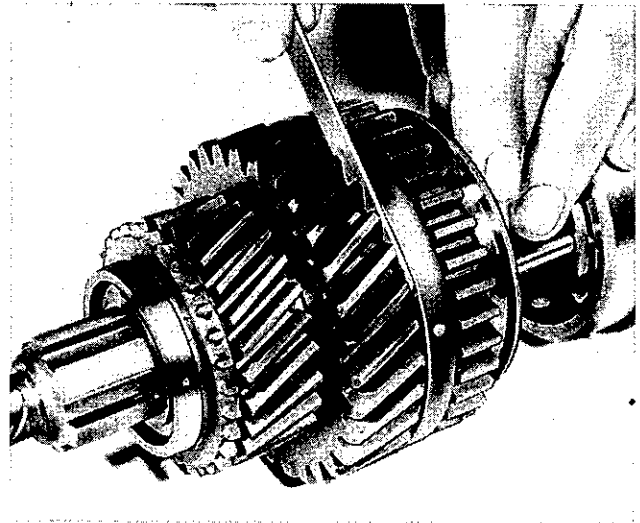

Fig. 21. Checking clearance between "first" speed sliding gear and its synchro cup
- (g) When reassembling new gears and bushes on to the mainshaft, there should be a clearance, measured as shown in Fig. 21 between the "first gear" synchro cup and the "first gear" itself of $.065"$ — $.070"$, with the gear synchro cup and cone in contact.